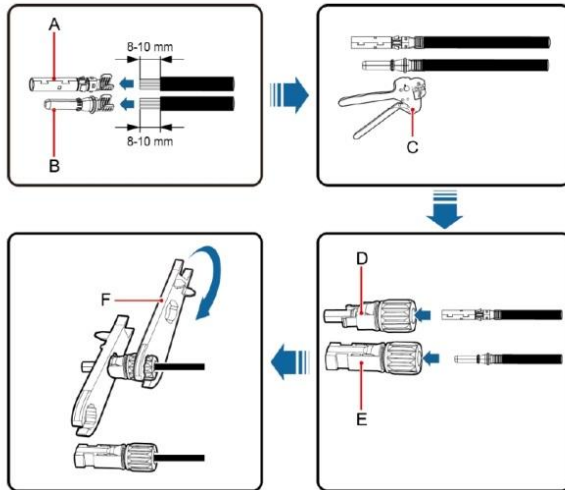

Fig 5.2 Connection between MC4 DC connector and PV string
(1) As shown in Fig 5.2, connect the output wire of the PV string to the DC connector of the inverter. Loosen the fastening nut of the connector; strip off the 15mm insulation layer of the DC cable, and use crimping pliers to press the standard metal terminal tightly. The tightening torque of the waterproof part at the tail is 2.5-3Nm. The wiring method of the positive and negative connectors is the same. Confirm that the positive and negative poles of the PV string correspond correctly to the positive and negative connectors, then connect them firmly;